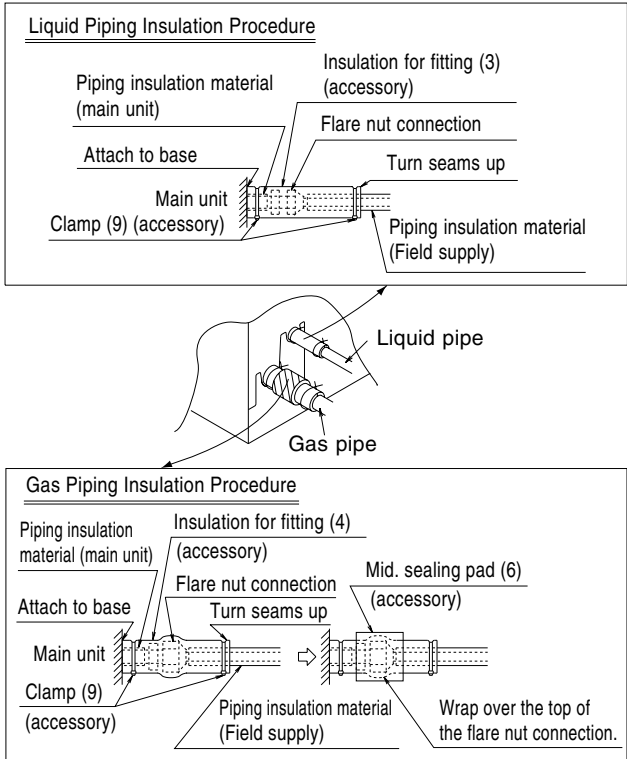

Fig. 8
(2) After the work is finished, make sure to check that there is no gas leak.
- (3) After checking for gas leaks, be sure to insulate the pipe connections referring to Fig. 8.
- Insulate using the insulation for fitting (3) (4) included with the liquid and gas pipes. Besides, make sure the insulation for fitting (3) (4) on the liquid and gas piping has its seams facing up. (Tighten both edges with clamp (9).)
- For the gas piping, wrap the mid. sealing pad (6) over the insulation for fitting (4) (flare nut part).